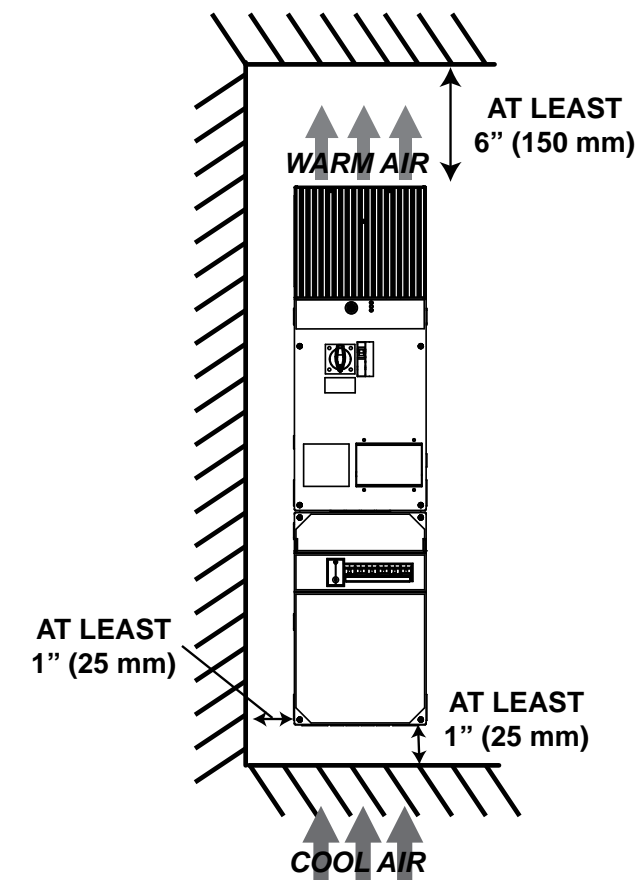

Figure 3-7. Allowing for passive cooling
2. Place the TS-MPPT-600V-TR on a vertical surface protected from direct sun, high temperatures, and water. The TS-MPPT-600V-TR requires at least 6" (150 mm) of clearance above and below and at least 1" (25 mm) between the controller and adjacent walls for proper air flow as shown in figure 3-7 below.
7. Mark four (4) mounting hole locations in the wiring box, and two (2) in the GFPD box, if applicable.
10. Secure the controller with four (4), for DB model, #10 mounting screws.